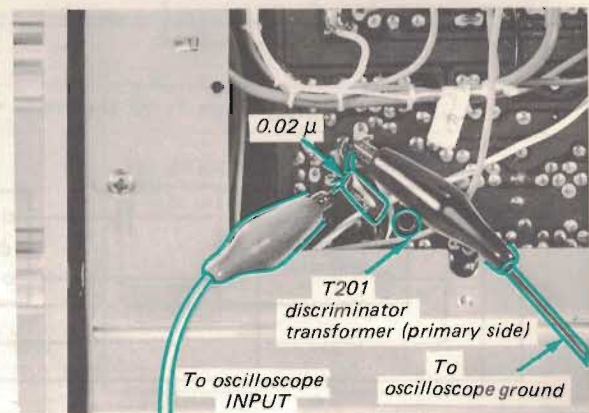
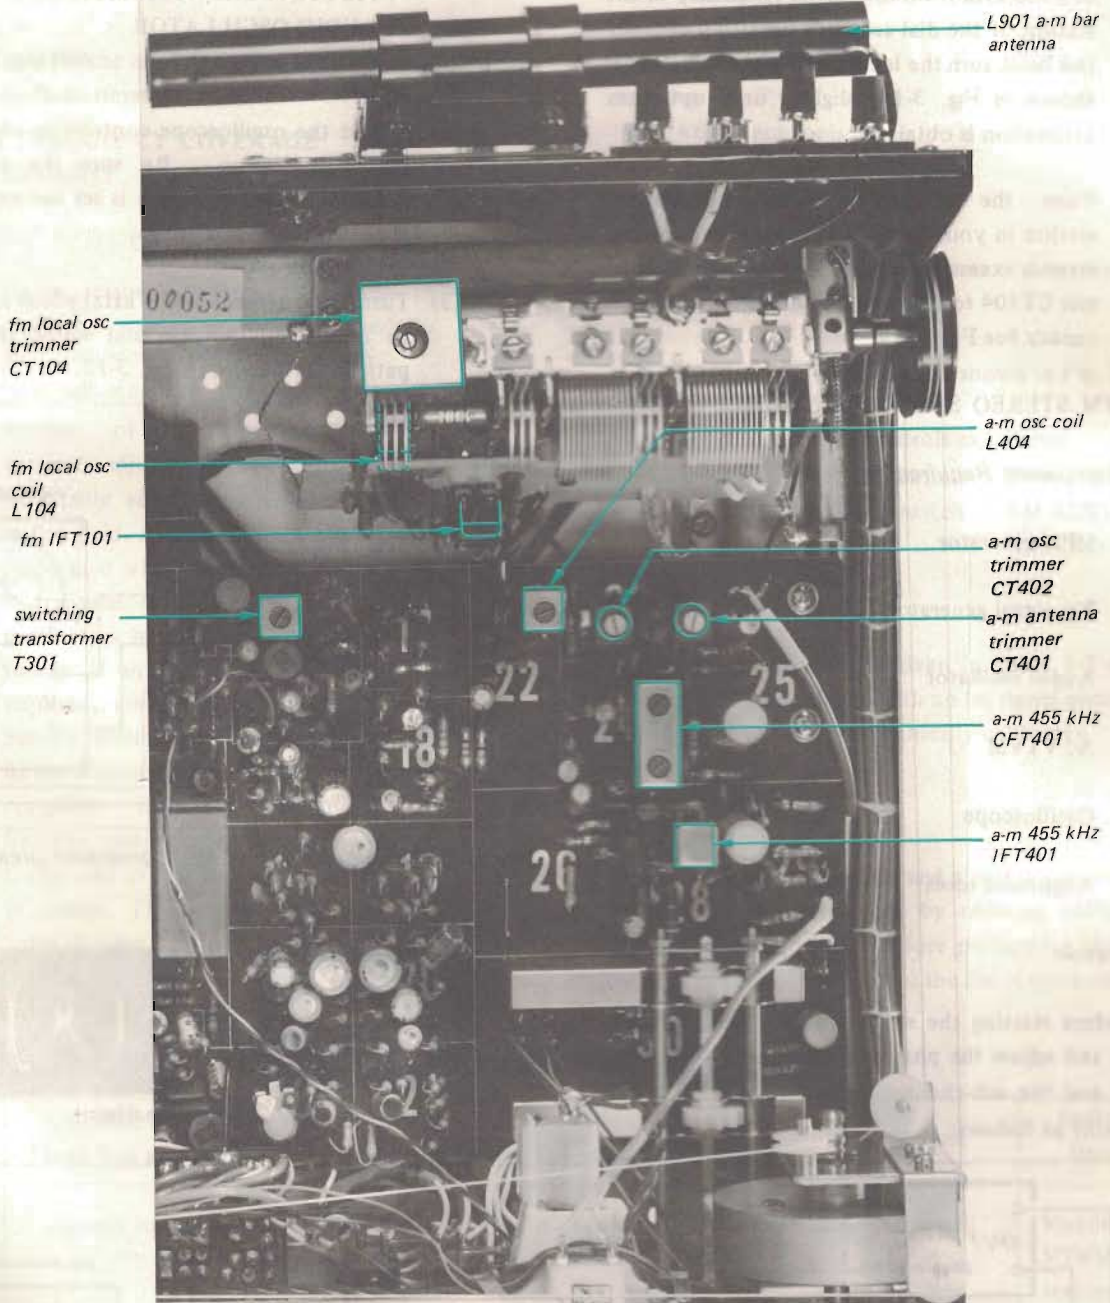

Fig. 3-3 Fm discriminator output connection
Fig. 3-14 Parts location
2. Solder a $0.02\mu\text{F}$ capacitor across C215, and then connect the input cable of the oscilloscope with alligator clips to it as shown in Fig. 3-3.
5. Adjust i-f transformer IFT101 (See Fig. 3-14) and the primary side of discriminator transformer (T201 bottom core, See Fig. 3-3) to obtain a maximum-amplitude "S" curve response.
7. Turn the core of fm IFT 101 and bottom core of T201 (See Fig. 3-3 and Fig. 3-14), to obtain the maximum output.
2. Check the dial scale for a calibration accuracy of ± 300 kHz from the carrier frequency of the station. If the dial-accuracy deviation exceeds this limit, turn the local-oscillator coil L104 (as shown in Fig. 3-14) slightly until optimum calibration is obtained.
3. Tune the set to the highest-frequency station in your locality. If the dial-calibration error is excessive, adjust local-oscillator trimmer CT104 to obtain maximum calibration accuracy. See Fig. 3-14.
2. Precisely tune the set to the SSG's carrier frequency, then turn the top core of switching transformer T301 to obtain maximum output at the left channel. See Fig. 3-14. Note that this adjustment has a close relationship with stereo distortion.
1. Tune the receiver to the lowest-frequency station in your locality. If the dial-calibration error is excessive, turn the local oscillator-coil L404 (see Fig. 3-14) slightly until optimum dial calibration is obtained.
2. Tune the receiver to the highest-frequency station in your locality. If the dial-calibration error is excessive, adjust local-oscillator trimmer-capacitor CT404 (see Fig. 3-14) to obtain maximum calibration accuracy.
1. Tune the set to the station whose carrier frequency is closest to 620 kHz and adjust the position of antenna coil L402 as shown in Fig. 3-14 to obtain maximum output.
2. Tune the set to the station whose carrier frequency is closest to 1,400 kHz and adjust antenna trimmer CT402 to obtain maximum output. See Fig. 3-14.